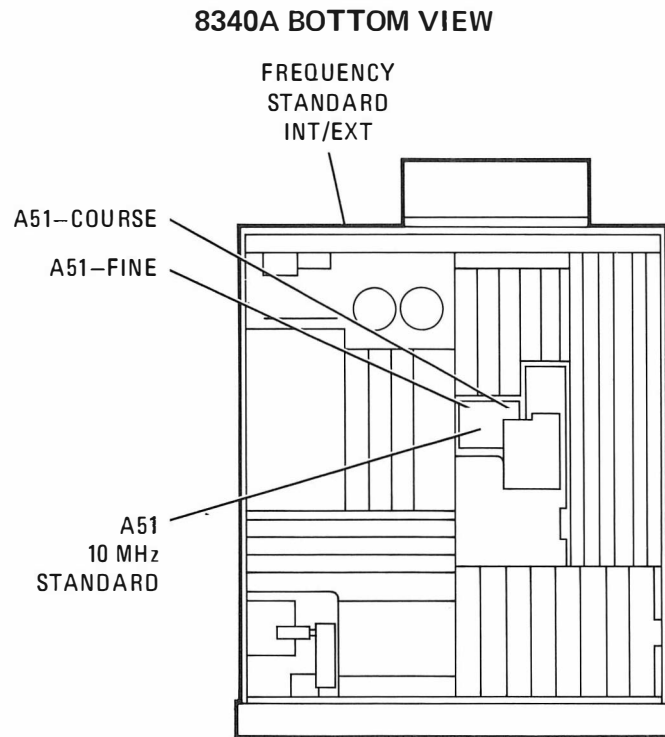

Figure 5-4. 10 MHz Standard Adjustments Location
5. Adjust A51 COARSE frequency adjust for minimum sideways movement of the displayed signal. Adjust A51 FINE frequency adjust for no sideways movement of displayed signal. Refer to Figure 5-4 for location of A51 10 MHz Standard.